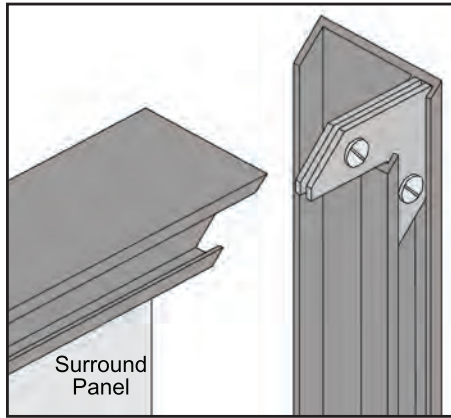
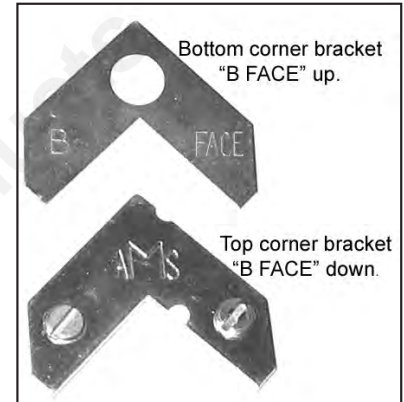

Figure 56: Corner brackets for trim.
Figure 57: Two pieces of corner bracket.
1. Attach one side trim to the top trim, using a corner bracket (see Figure 56) to secure pieces together. There are two (2) main pieces to each corner bracket (see Figure 57). When installing the corner pieces into the trim, the "B FACE" sides must face each other and the screw heads are to face out. With the bracket in place and